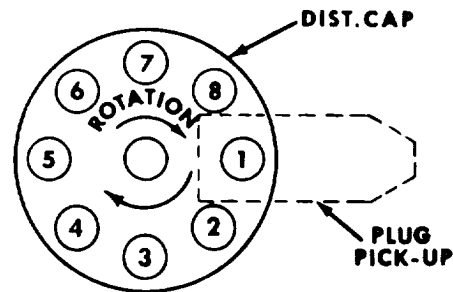

Fig. 33
REFER TO FIG. 33 TO LOCATE
3. Count distributor cap H. T. terminals in the direction of distributor ROTATION; starting with the pickup location as No. 1 until corresponding cylinder number is reached. See Fig. 33.
5. **ROTOR GAP TEST** - Before reconnecting cable, use insulated ground test prod to check rotor gap. Connect ground clip to engine block. Insert sharp prod into open cap tower. Operate engine at idle for minimum rotor gap clearance. Spark advance increases rotor gap. Plug spike should drop to 5 - 6 KV. This is voltage required to spark from rotor to cap terminal. Reading over 7 KV indicates excessive rotor gap (wrong type) or corroded tip; replace rotor. Reconnect cable into distributor. See Fig. 33. NOTE: Vehicles using a wide rotor gap of .070" to .090". Readings of 6 to 7 KV are normal.
10. To locate a defective cylinder on the engine, refer to Figure 33.